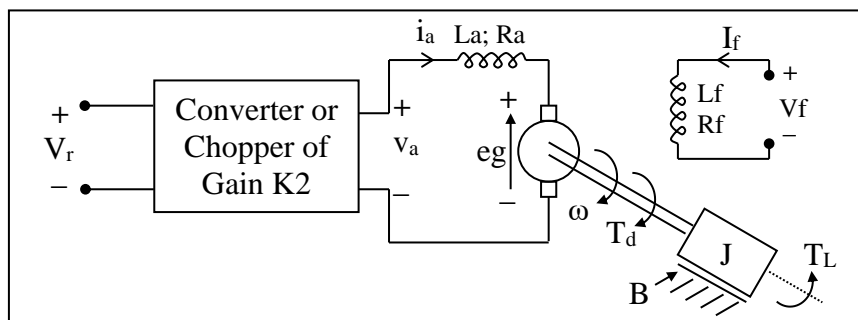

Figure 3
5.1 The open-loop drive control of a separately excited dc motor is illustrated in figure 3.